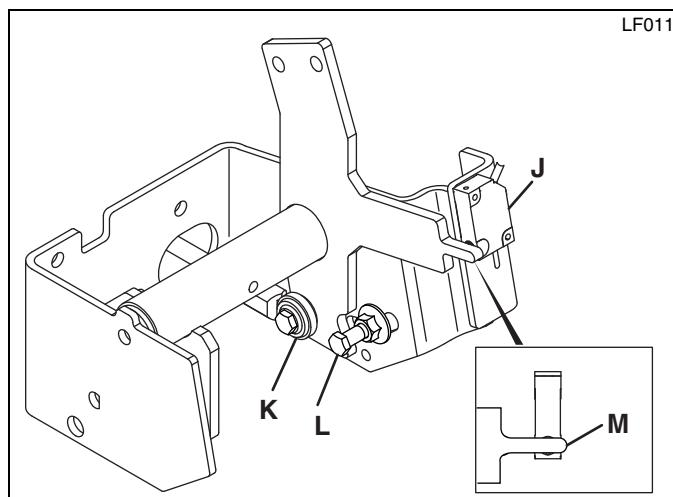

Figure 3K
4. Engage parking brake and set mow switch to neutral. Make sure neutral switch at traction pedal is closed. (Figure 3K - **M**). Distance between the switch and metal pointer "M" must be between 1/16 and 1/8 in. (1.5 and 3 mm).
6. Connect traction linkage. When connecting linkage at traction pedal, make sure pointer on traction pedal bracket is centered over neutral switch (**M** -Figure 3K).